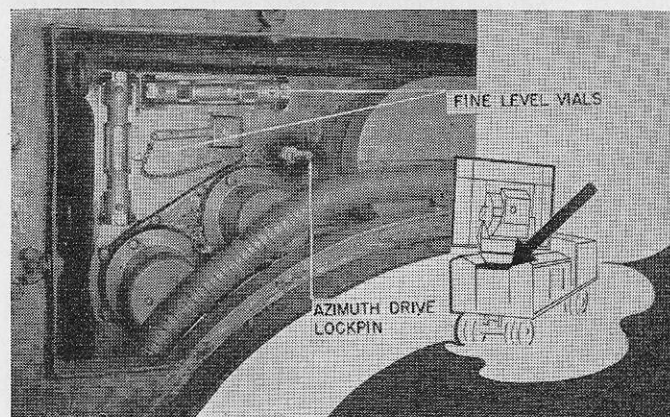

FIGURE 42.—Installation of fine level vials.
x. Remove the fine level vials from their cases on a shelf in the trailer cab and install them in position on the pedestal as illustrated in figure 42. Make sure the seating surfaces are clean. The levels are interchangeable in the two positions. The shields on the vials must be rotated to make the bubbles visible.
ab. Remove the azimuth drive lock pin shown in figure 42. Reverse the pin and reseal it. (Normally this pin will not be in the "locked" position and this step may be omitted.)